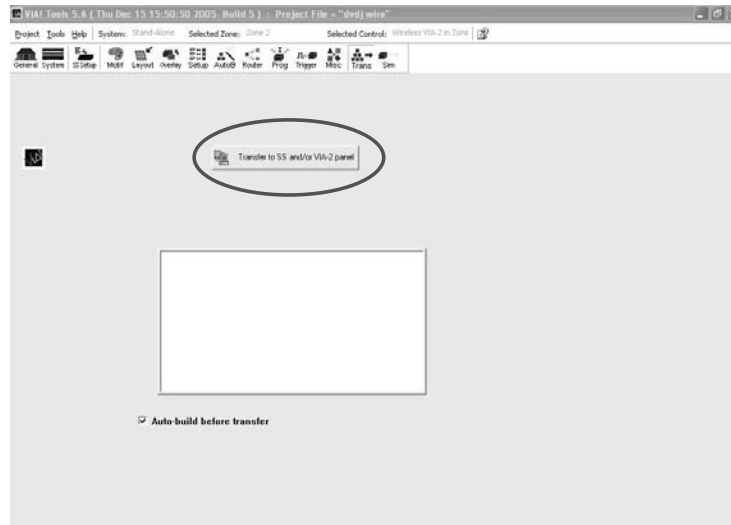

Figure 5.2 - VIA!TOOLS Download
4. Click the button labelled "Transfer to SS and/or VIA-2 panel" (**Figure 5.2**).